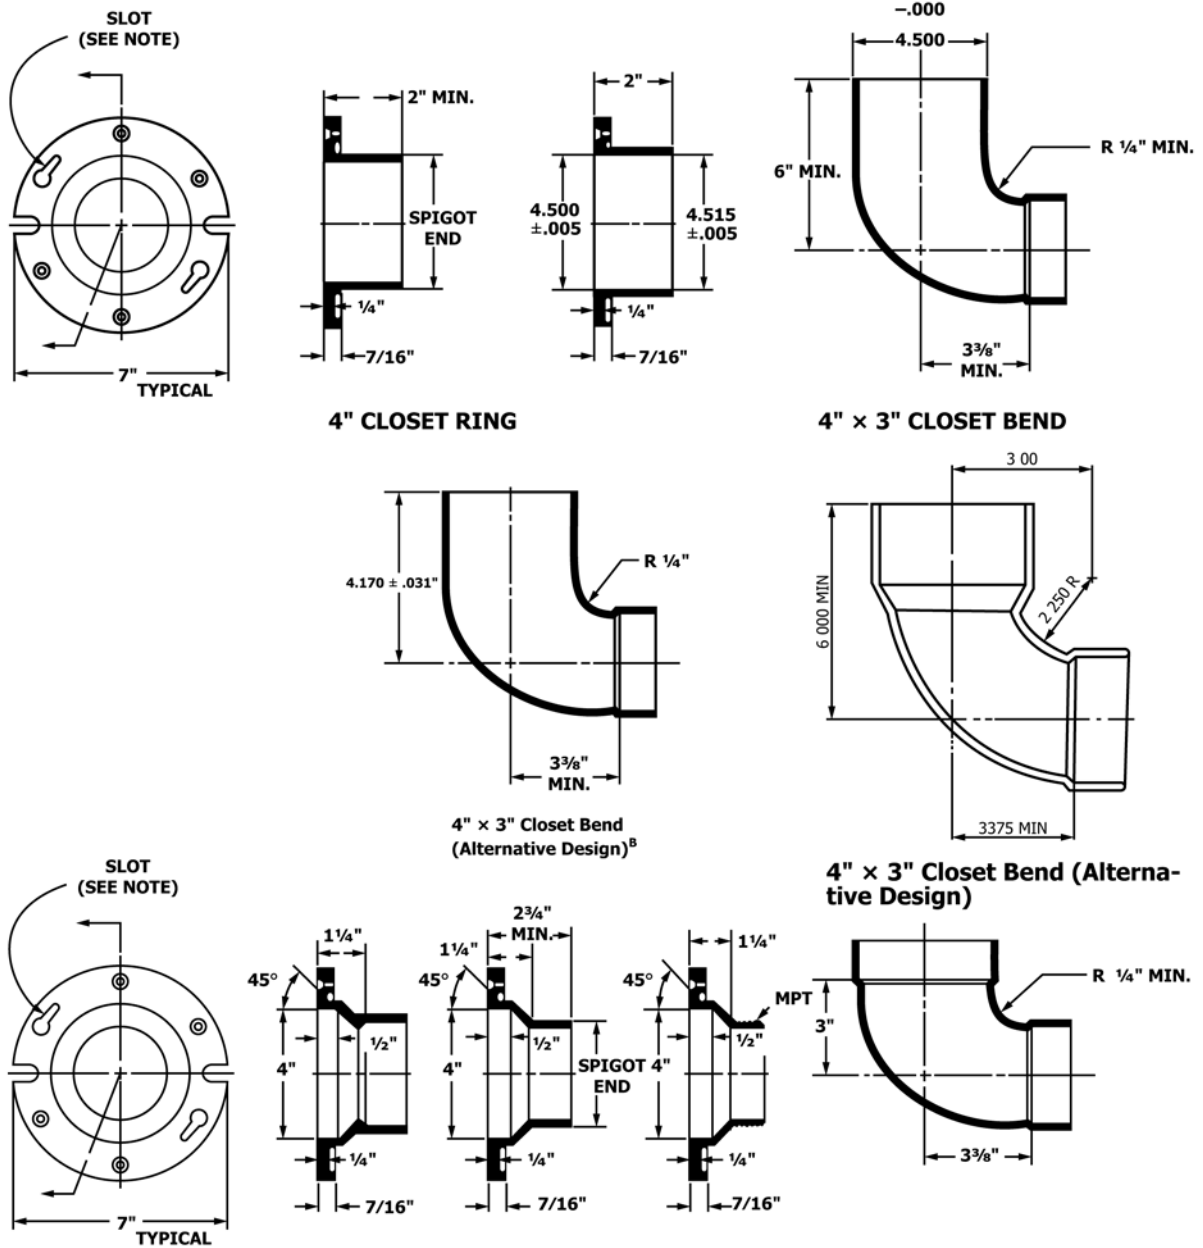

FIG. 1 Closet Rings and Closet Bends,A in.
(1) Footnote B in Fig. 1 was revised
(2) In Table 3, added a subscript letter “D” to the GN dimension for the 4 inch 45° Wye to represent that this dimension is to be a minimum with no upper maximum limit. A note “D” was also added to the bottom of table.
(3) In Table 4, added a subscript letter “B” to G1, G2, and G3 dimensions for a 4 by 4 by 3 45° Wye to represent that these dimensions are to be a minimum with no upper maximum limit.
*This standard is copyrighted by ASTM International, 100 Barr Harbor Drive, PO Box C700, West Conshohocken, PA 19428-2959, United States. Individual reprints (single or multiple copies) of this standard may be obtained by contacting ASTM at the above address or at 610-832-9585 (phone), 610-832-9555 (fax), or [service@astm.org](mailto:service@astm.org) (e-mail); or through the ASTM website ([www.astm.org](http://www.astm.org)). Permission rights to photocopy the standard may also be secured from the Copyright Clearance Center, 222 Rosewood Drive, Danvers, MA 01923, Tel: (978) 646-2600; <http://www.copyright.com/>*